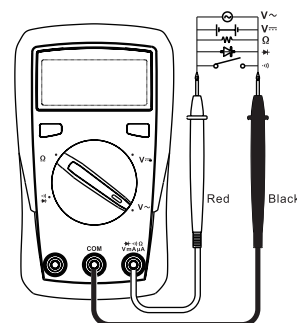

Figure 2
1. AC/DC voltage measurement (see Figure 2)
2. Resistance measurement (see figure 2)
3. Continuity measurement (see Figure 2)
4. Diode measurement (see Figure 2)